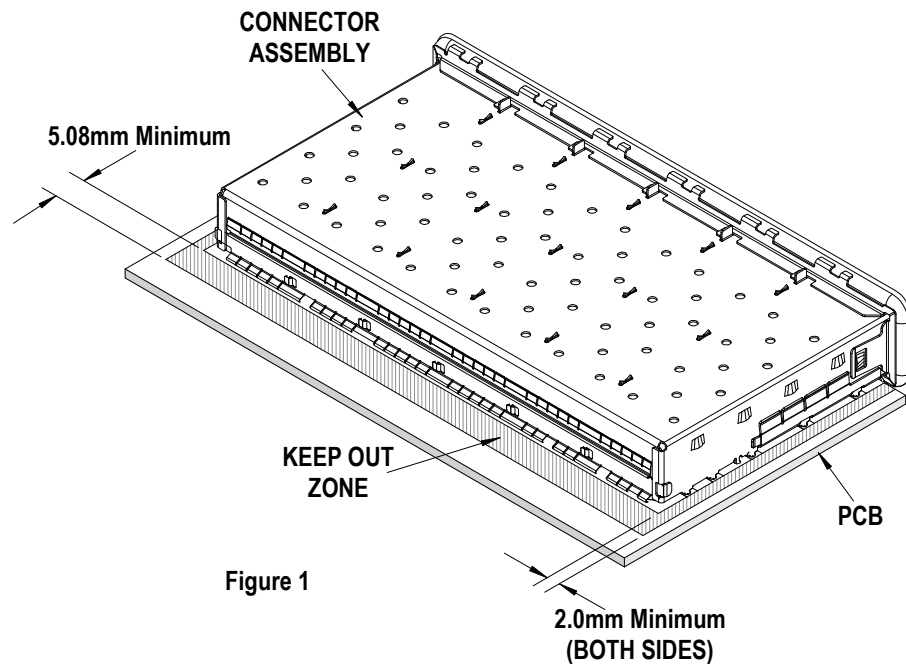

Figure 1
2. These tools require a "Keep Out Zone" around the connector free of components. ★ The rear of the connector should be .200" (5.08mm). The right and left sides should be .080" (2.00mm). See Figure 1.